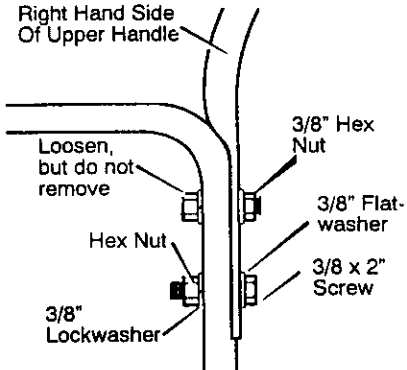

Figure 3
1. Loosen, but do not remove, the screws, flatwashers, lockwashers, and hex nuts in the upper holes of the lower handle. See Figure 3.